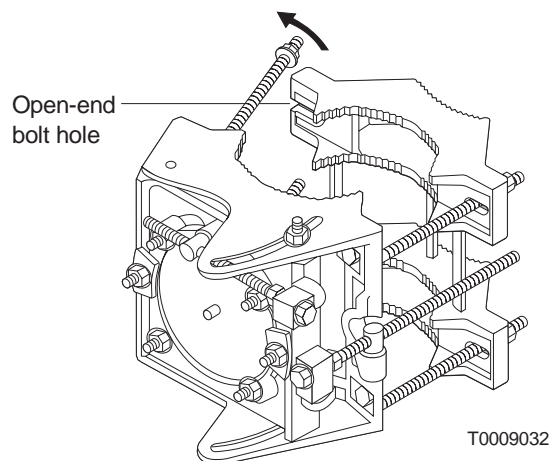

Figure 6-6 Opening the mount
2. One side of the mast clamp has two open-end bolt holes that allow the long bolts that are attached to the mast interface to swing in or out. See figure 6-6. At the side of the mount where the two open-end bolt holes are, swing the two bolts outward so you can open the mount enough to place it around the mast.